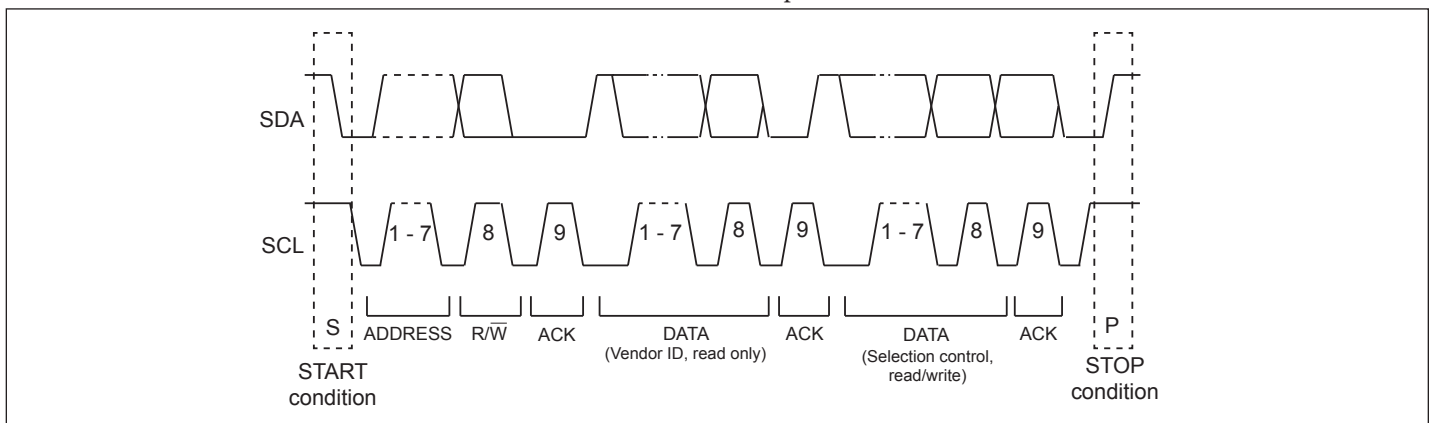

Figure 3. A Complete Data Transfer
Data transfers follow the format shown in Figure 3. After the START condition (S), a slave address is sent. This address is 7 bits long followed by an eighth bit, which is a data direction bit (R/W)—a 'zero' indicates a transmission (WRITE), and a 'one' indicates a request for data (READ). A data transfer is always terminated by a STOP condition (P) generated by the master. However, if a master still wishes to communicate on the bus, it can generate a repeated START condition (S) and address another slave without first generating a STOP condition. Various combinations of read/write formats are then possible within such a transfer.